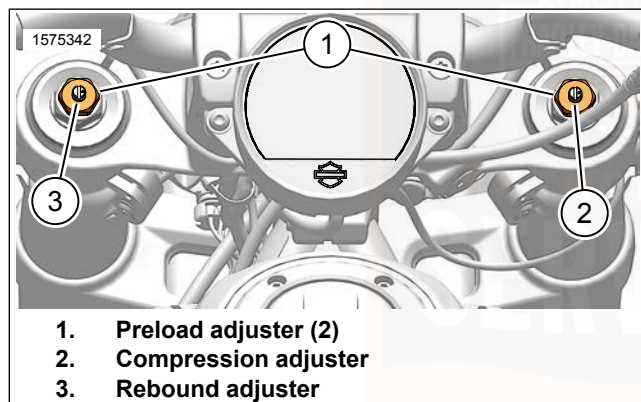

Figure 22. Front Suspension Adjusters
Models equipped with adjustable front forks have adjusters at the top of each fork. See Figure 22.
See Figure 22. The compression adjuster (2) screw is located on the top of the right side fork tube.
See Figure 22. The rebound adjuster (3) screw is located on the top of the left side fork tube.
See Figure 22. The preload adjuster (1) is located on the top of each fork tube.